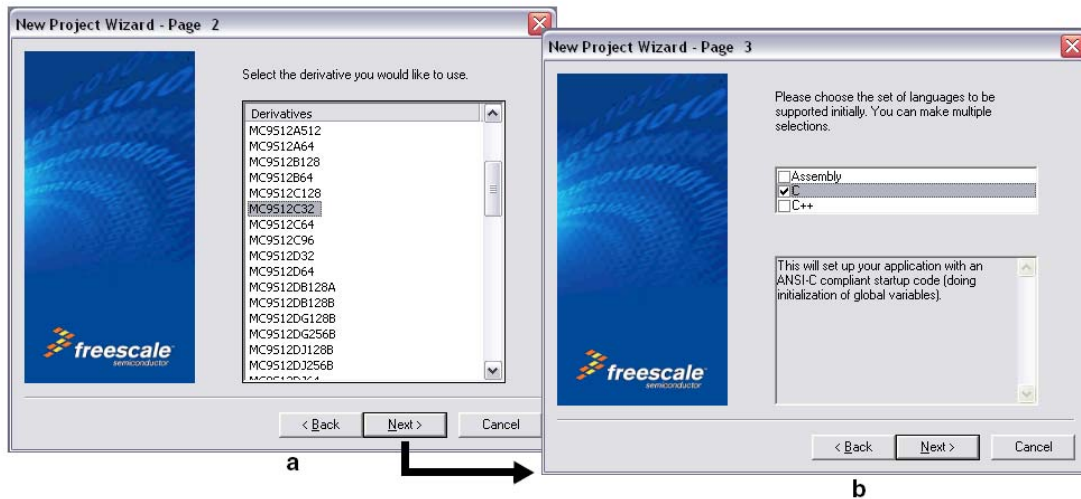

Figure 10. CodeWarrior New Project Wizard - Page 2 and Page 3
- d) Click OK — the first page of the new project wizard will appear explaining to you how the project wizard works, proceed to the second page by clicking OK again (see Figure 10)
- f) Click Next — page 3 of the new project wizard will appear (see Figure 10).